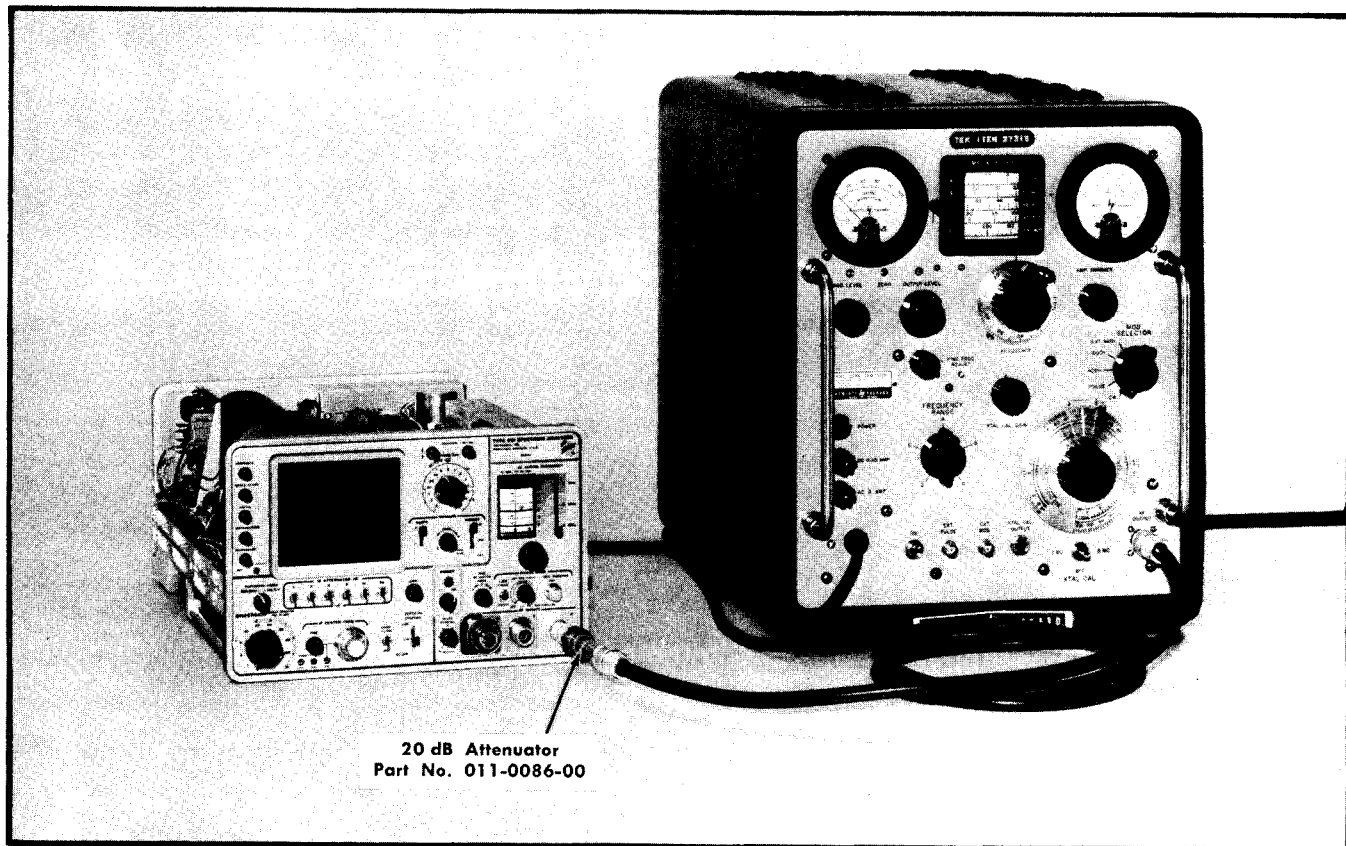
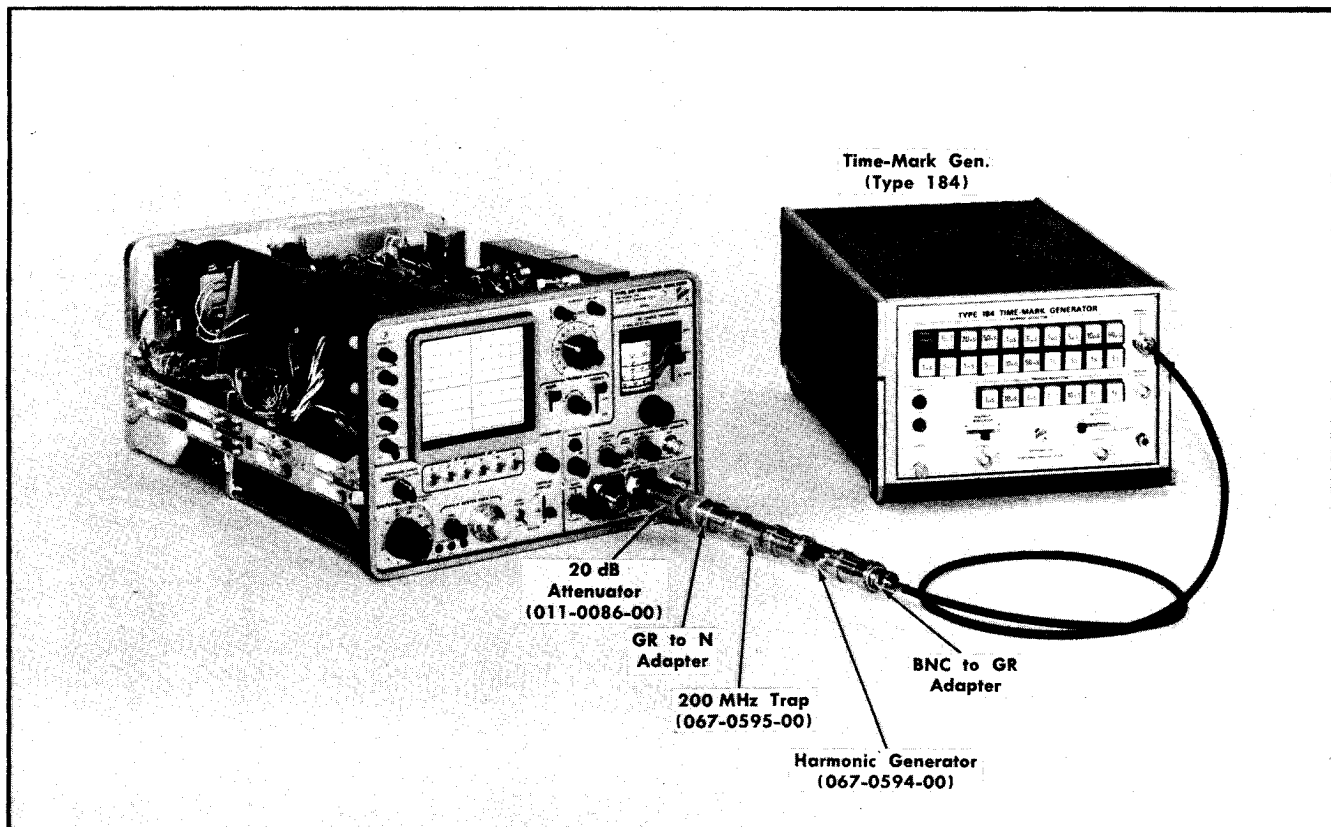

Fig. 6-41. Typical equipment setup to check response flatness, sensitivity, frequency calibration and phase lock operation.
Fig. 6-45. Alternate equipment setup that will check dial accuracy, mixer and oscillator operation, and LO phase lock effectiveness.
a. Equipment setups are shown in Fig. 6-41 through 6-43. Fig. 6-45 shows the setup for the alternate procedure to check dial accuracy (step 38 B),
- a. Equipment setup is shown in Fig. 6-45.